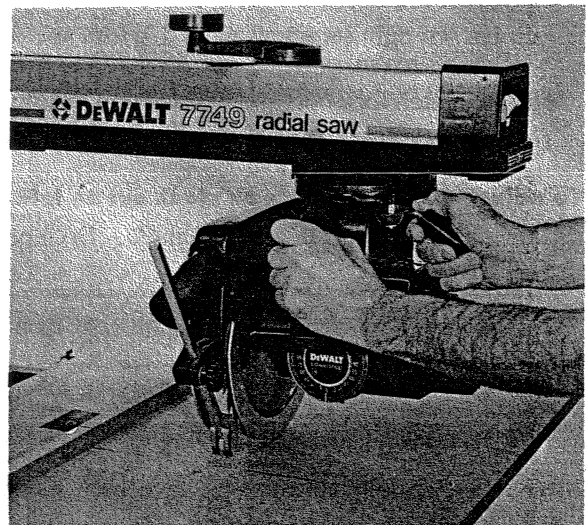

FIGURE 2
- (e) With the saw still running and your left hand still on the handle release the yoke lock with your right hand and pull it with sufficient strength so the yoke clamp handle presses against the yoke locator pin bell pulling the yoke locator pin out of the hole in the roller head. You can now rotate the saw blade in a clockwise direction. Release the pressure on the bell and continue rotating the blade until the spring mounted yoke locator pin falls into the next hole. You have now cut in the table top a 1/4 turn groove known as the swing line. The saw is now in the "in-rip" position. (Refer to figure 2) Loosen Rip Lock.